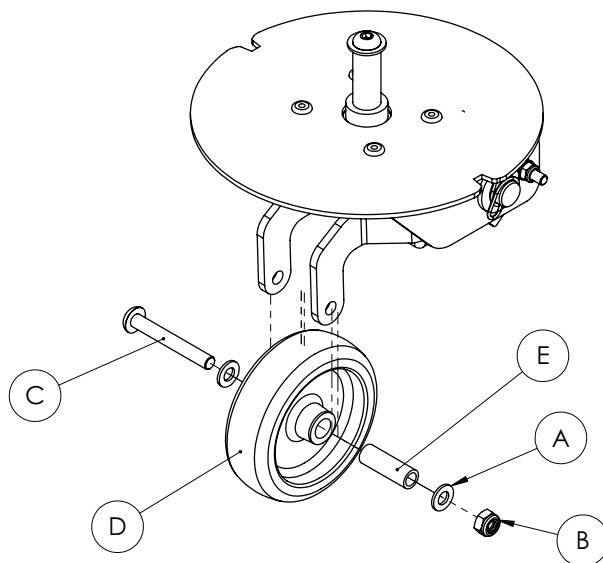

Figure 8 – Fifth wheel lubrication
5. Using a 13 mm combination wrench, remove and save the bolt (C), nut (B), and washers (A) from the fifth wheel (D) (Figure 8).
6. Remove and apply the polyurea based grease to the wheel bearing (E) surface (Figure 8).